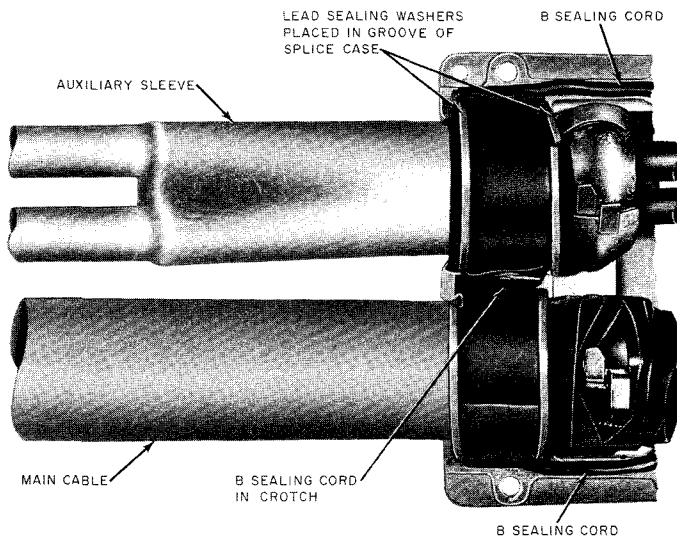
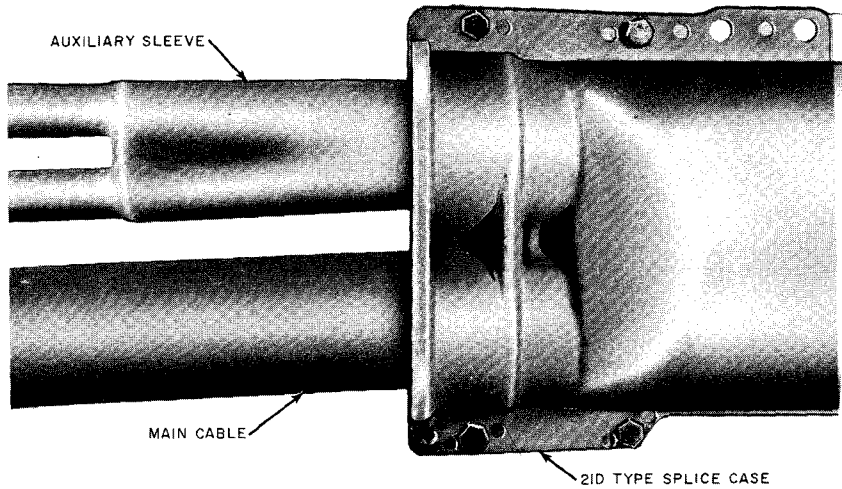

Fig. 7—Back Half of Splice Case Placed Over Splice
Fig. 8—Installed Splice Case
- 4.03 Place a splice case over the splice as outlined in Section 633-400-200. (Fig. 7 and Fig. 8)